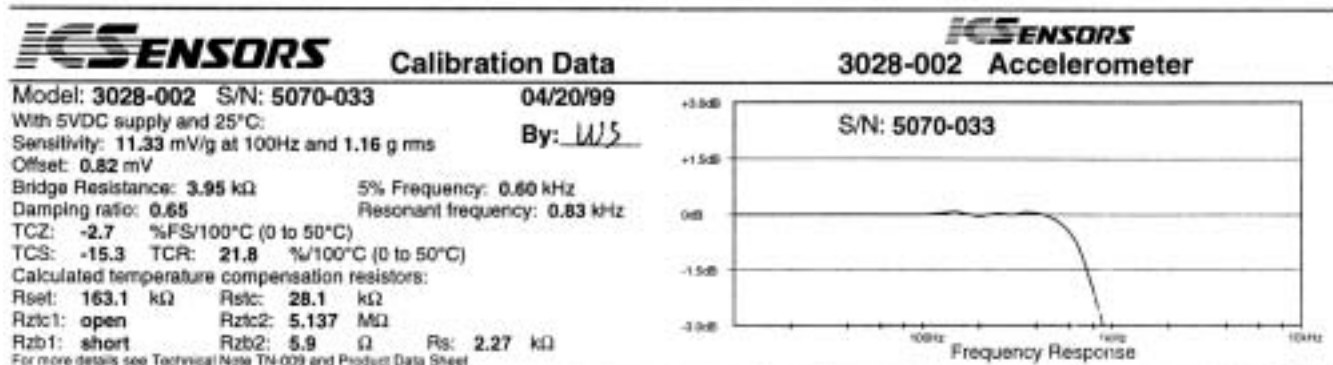

Figure 1. Calibration Data Sheet
9. Actual test data for this parameter is included on the calibration sheet provided with each sensor. A sample of this calibration sheet is shown as Figure 1.